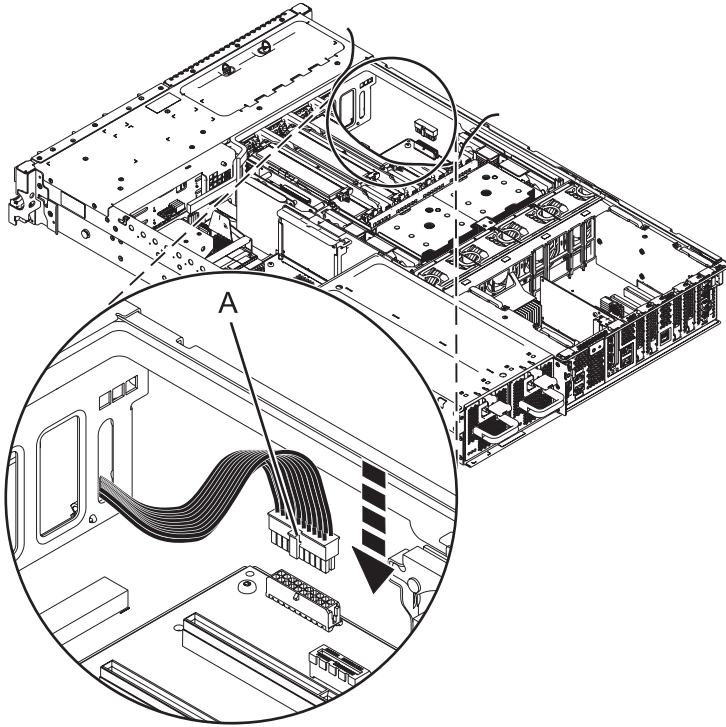

Figure 54. Connecting the fan cable
10. Connect the fan cable by pressing the fan cable (A) into the fan cable connector. See Figure 54 on page 64.